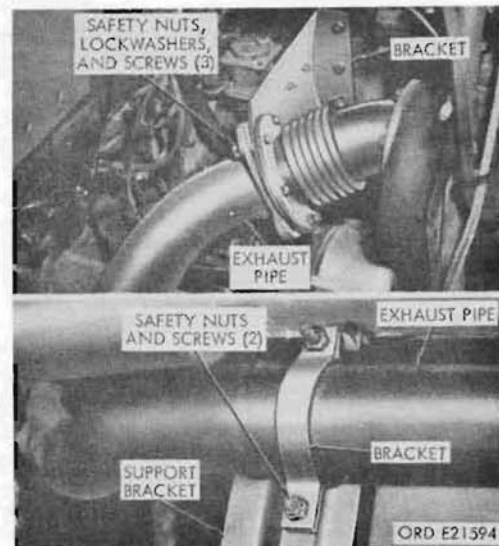

Figure 132. Exhaust pipe removal
- (1) Remove three safety nuts, lockwashers and screws securing the exhaust pipe to the bracket on the engine. Discard the gasket between the exhaust pipe and the exhaust flange and bellows (fig. 132).